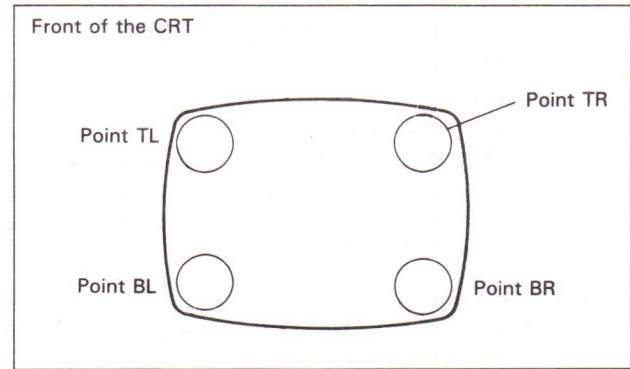

Fig. 7
- For example, when correcting convergence of the point TR on the screen in **Fig. 7**, insert the ribbon in the upper-right position of the CRT facing the front. When looking at the convergence aberration of the point TR on the screen (longitudinal and vertical line), set the position of the ribbon and correct the convergence in accordance with the following steps.